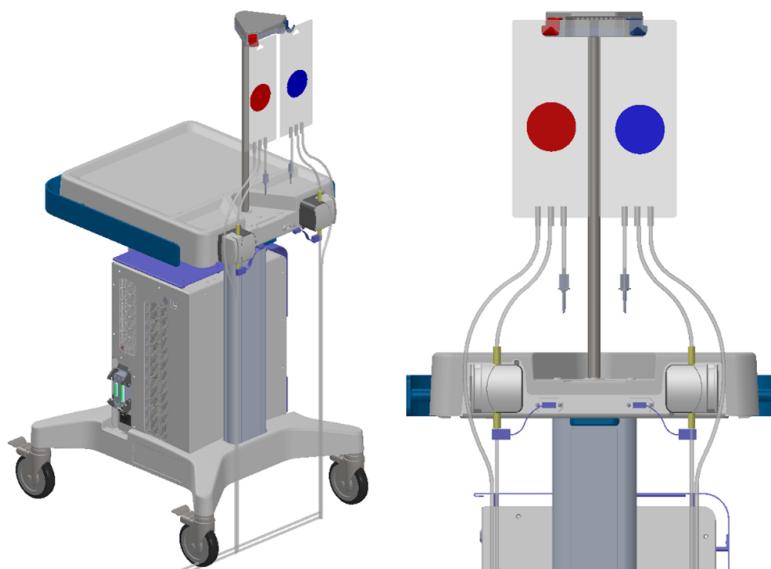

Figure 4: Preparing the system cart and fluid tube sets
- a. For each tube set, hang the reservoir bag on the corresponding color-coded weight sensor hook on the System Cart (*Figure 4*).